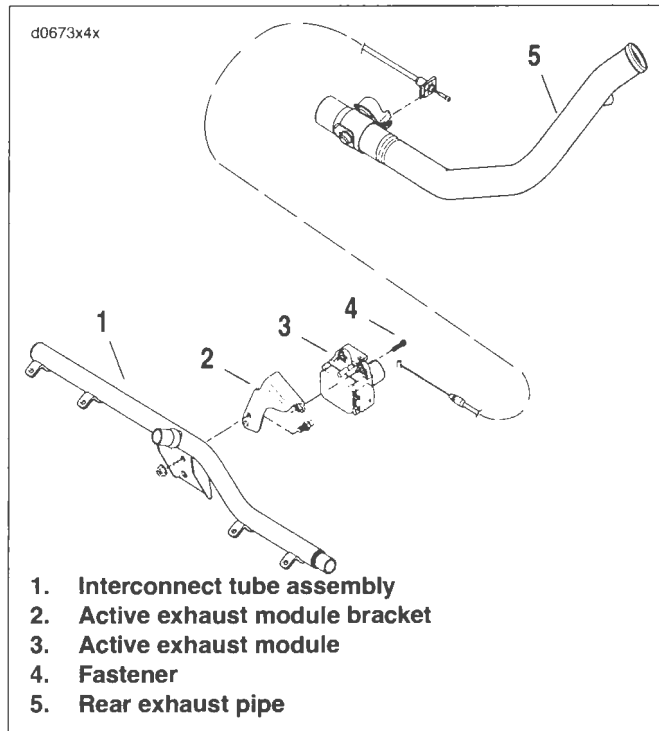

Figure 8-89. Active Exhaust Module Mounting
4. See Figure 8-89. Remove module fasteners (4) from active exhaust module bracket (2).
1. See Figure 8-89. install active exhaust module (3) to bracket (2) using fasteners (4). Tighten fasteners to 8-10 ft-lbs (10.8-13.6 Nm).